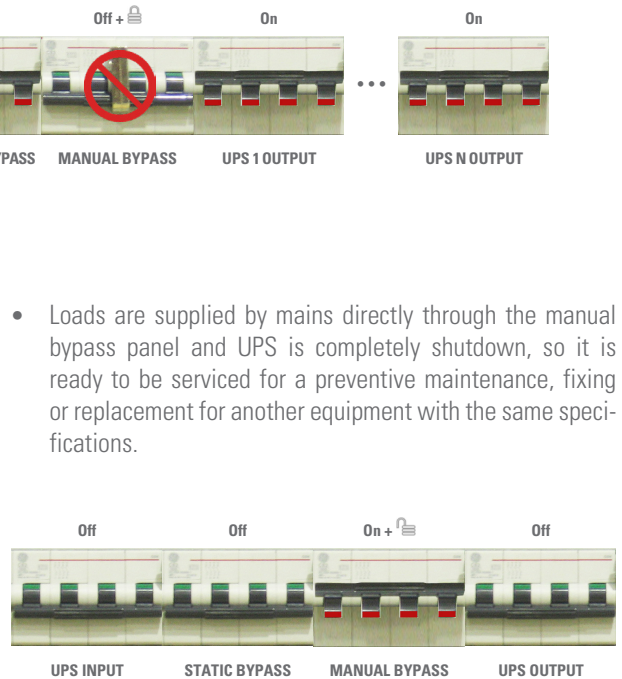

Fig. 13. Position of the bypass panel switches in «maintenance operating» (with one UPS only).
- Turn «UPS INPUT» and «UPS OUTPUT» switches from bypass panel to «Off». In case the separate bypass line (-B) was available, turn the «STATIC BYPASS» switch of the bypass panel to «Off» too. In the illustration of Fig. 13, it is shown the position of the switches once the manoeuvring has been finished.